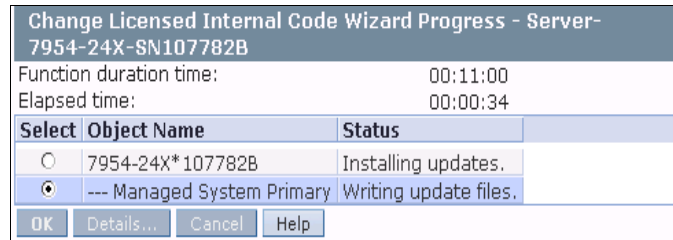
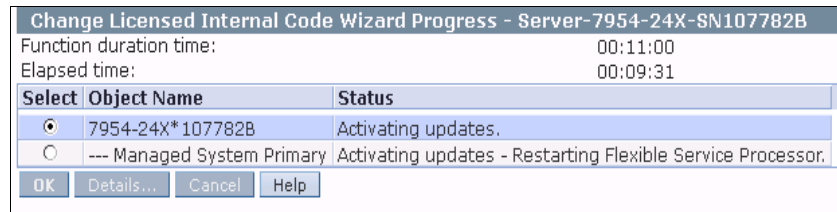
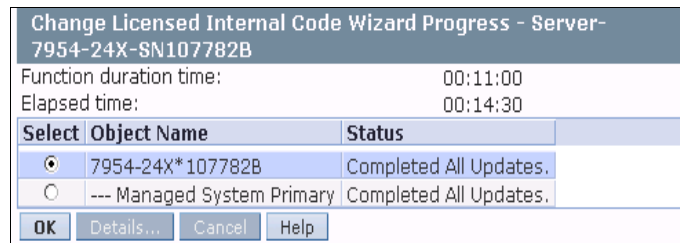

Figure 7-130 LIC update progress window
Figure 7-131 LIC update progress window continued
Figure 7-132 LIC update progress window complete
15. Figure 7-130, Figure 7-131, and Figure 7-132 show various progress messages that are displayed during the update process.